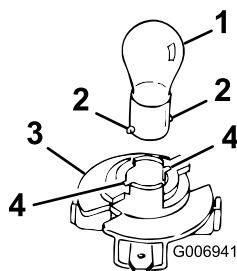

Figure 53
- Insert and rotate the bulb counterclockwise until it stops (approx. 1/4 turn), and remove the bulb from the bulb holder (Figure 53).
- Insert the base into the holder (Figure 53).